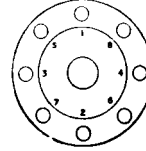

Fig. 84. Sequence of tightening divided rim nuts
- (1) Ensure that the wheel securing nuts are tight.
- (2) Ensure that the clamping nuts which hold the two halves of the wheel together are tight. See para. 211, Fig. 84 for tightening order.